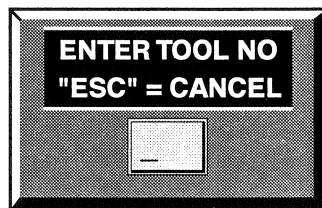

Figure G-18
- 3) A dialogue box will appear as in Figure G-18 below.